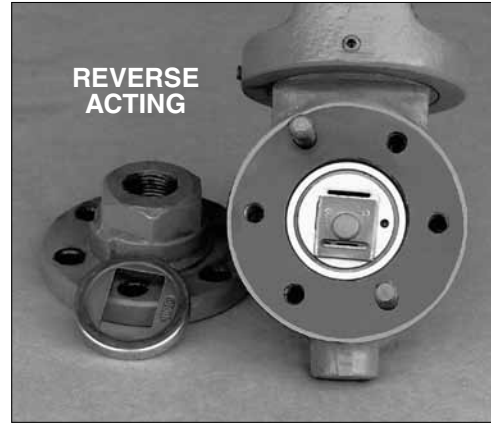

Figure 38
If the hole in the valve plate is to the left and the slot in the valve disc is on the top this valve is set for Direct Acting (see Figure 37). To change the action of the valve to Reverse Acting simply rotate the valve plate and the valve disc 180° so that the hole on the plate is on the right and the slot on the disk is at the bottom (see Figure 38).
- Install the valve-plate and valve disk for reverse action (see Figure 38).